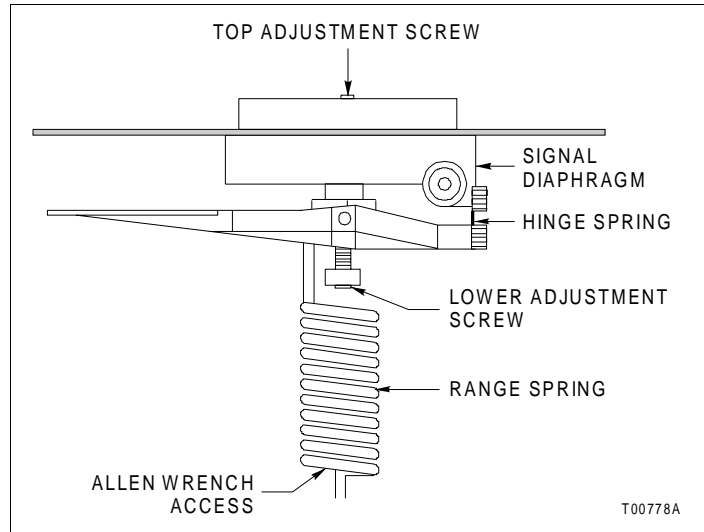
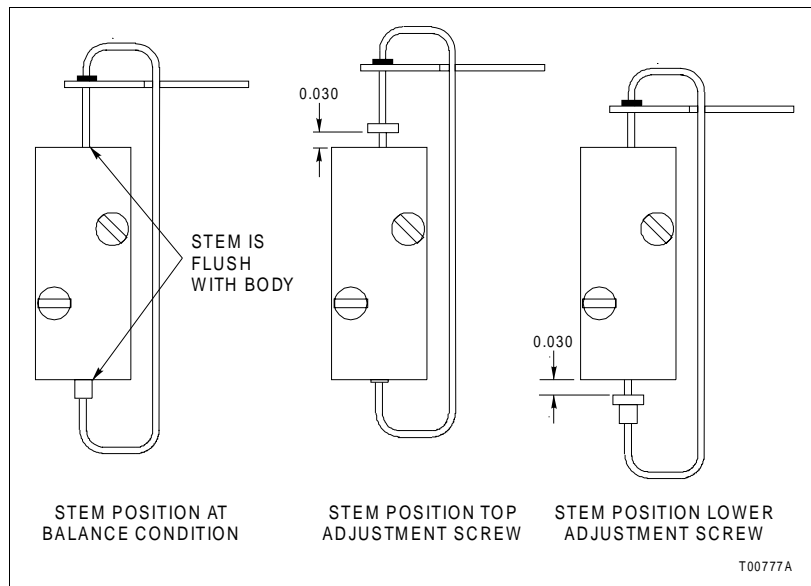

Figure 8-5. Stroke Adjustment Screw Locations
Figure 8-6. Pilot Valve Measurement for Maximum Speed
When the valve stem is in the balance position, as shown in Figure 8-6, the stem is flush with both ends of the valve body. There are two adjustment screws to adjust. Use the following procedure to check and adjust the travel of the valve stem.
- Using the $\frac{3}{32}$ -inch Allen wrench, adjust the top adjustment screw (Fig. 8-5) appropriately until the measurement matches the value shown in Figure 8-6. Figure 8-6 also shows the way the measurement is taken.
- Use the long (at least 5 inch) $\frac{3}{32}$ -inch Allen wrench to adjust the lower stroke adjustment screw (Fig. 8-5). Adjust the screw until the measurement matches the value shown in Figure 8-6.